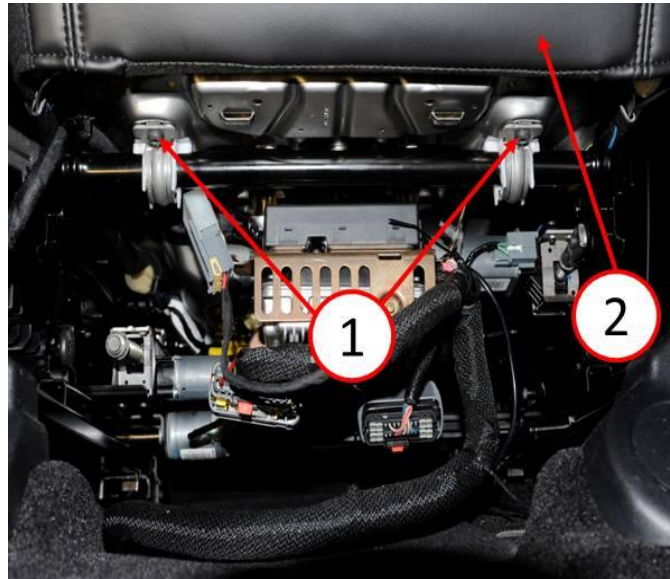

Fig. 6 Fasteners
- 8. Install the steel braces that cover the white isolator bushing and once seated reinstall fasteners removed in Step #6 securing the steel straps to the seat pan (Fig. 6).